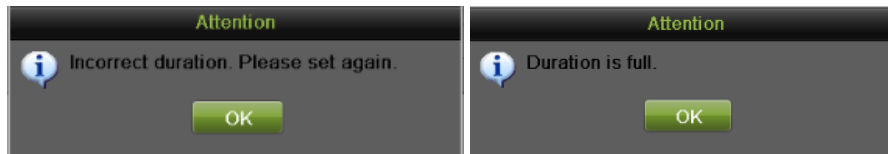

Figure 67 Schedule Configuration Error Messages
- 5) If there are scheduling errors detected, error messages such as those shown in Figure 67 will appear.